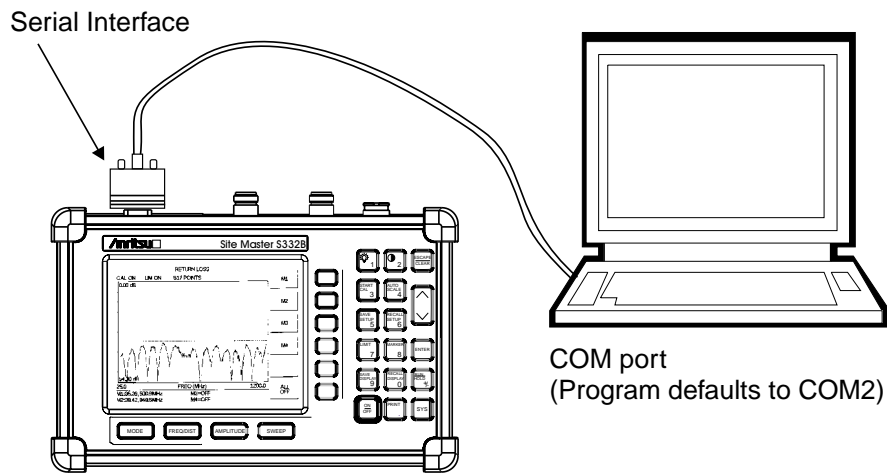

Figure 5-2. Serial Cable Connection
**Step 1.** Connect the supplied cable as shown in Figure 5-2.